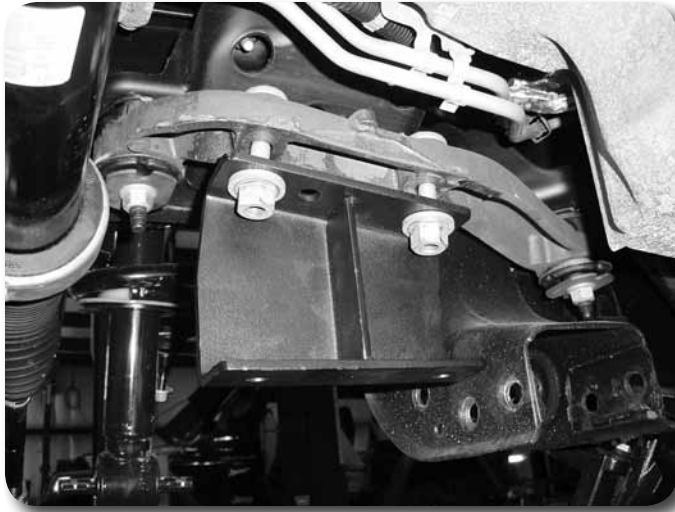

Figure 18
30. Install the new passenger's side differential bracket to the original mounting studs with the factory nuts **Figure 18**. The bracket mounting surface with 3 holes in it goes to the frame and the open face toward the inside of the vehicle. Torque nuts to 65 ft-lbs.